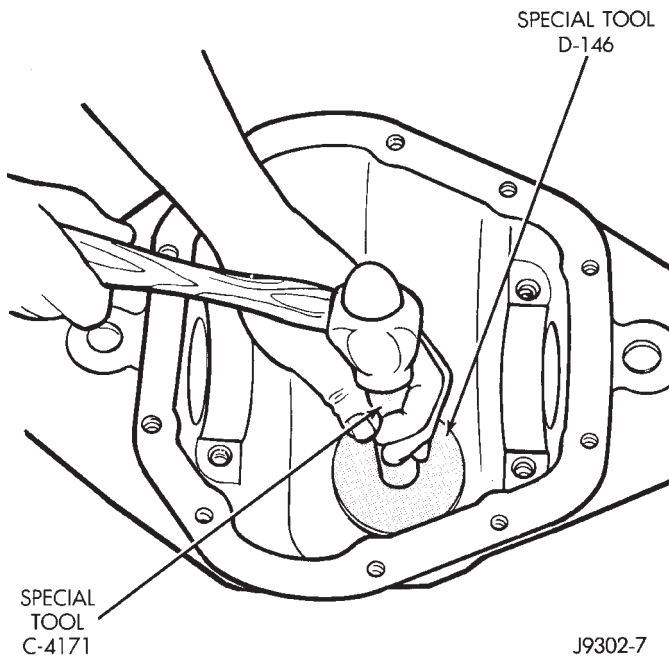

Fig. 25 Pinion Rear Bearing Cup Installation
- (1) Place the depth shims (and baffle if equipped) in the pinion gear rear bearing bore. Install the bearing cup with Installer D-146 and Driver Handle C-4171 (Fig. 25). Ensure cup is correctly seated.